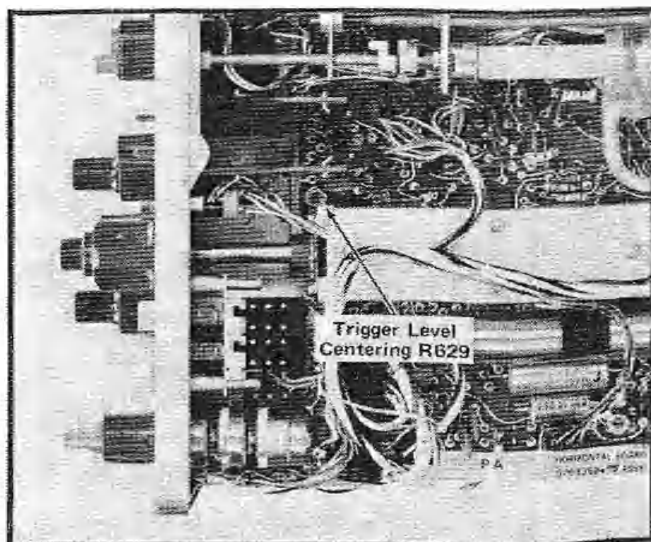

Fig. 5-10. Location of Trigger Level Centering adjustment.
e. ADJUST—Trigger Level Centering adjustment R629 (see Fig. 5-10) for a stable display in both the + and – positions of the TRIGGER SLOPE switch.